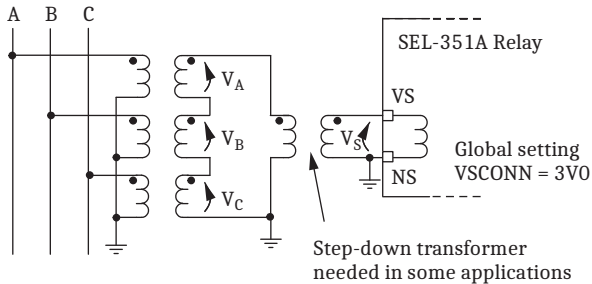

Figure 5 Broken-Delta Connection to SEL-351A Voltage Input VS/NS
Alternatively, voltage input VS/NS can be connected to a broken-delta voltage source, as shown in *Figure 5*. This broken-delta connection provides a zero-sequence voltage source (3V0)—useful when zero-sequence voltage is not available via the three-phase voltage inputs VA, VB, VC, and N, (e.g., when open-delta-connected voltage is applied to the three-phase voltage inputs—see *Figure 4*). Zero-sequence voltage is used in zero-sequence voltage-polarized ground directional elements and in the directional protection for Petersen Coil grounded systems.
- Broken-delta zero-sequence voltage (see *Figure 5*)